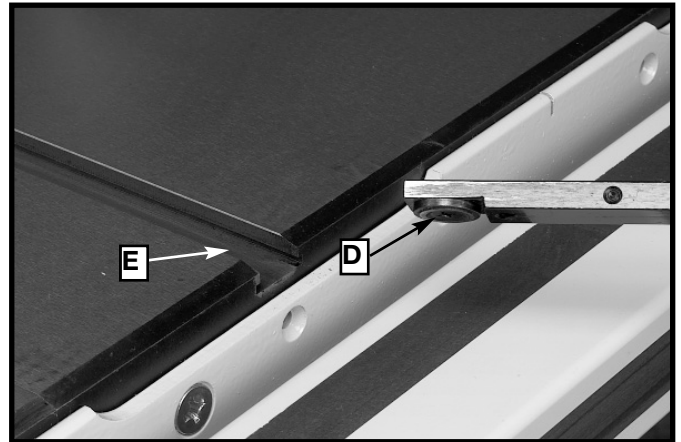

Fig. 41
Insert plate (D) Fig.41 into the miter gage slot (E) Fig. 41 and slide miter gage onto saw table.
The miter gage is equipped with a plate (D) Fig.41 which fits into the T-Slot groove (E) in the table. This allows the miter gage to be pulled off the front edge of the table without falling. This allows for a longer cut-off capacity in front of the blade.